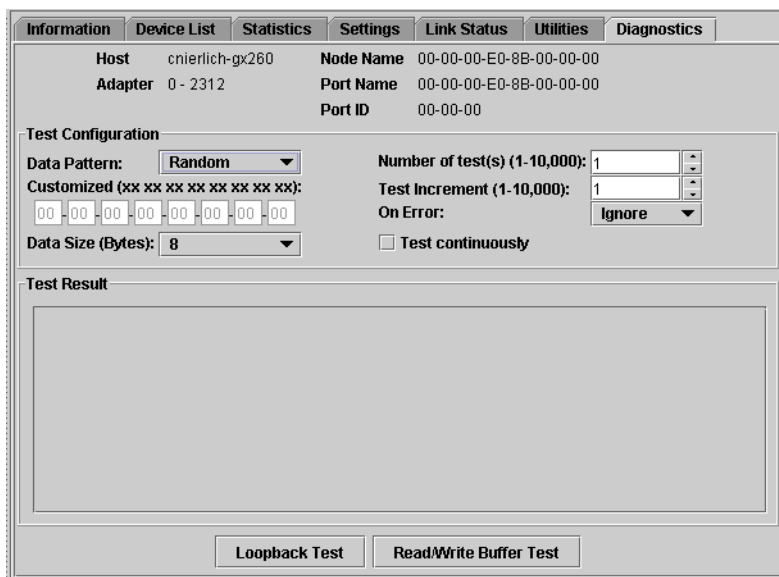

Figure 10-2. Diagnostics Tabbed Page
2. Click the **Diagnostics** tab. The **Diagnostics** tabbed page displays (see figure 10-2). The diagnostic test parameters are in the Test Configuration section.